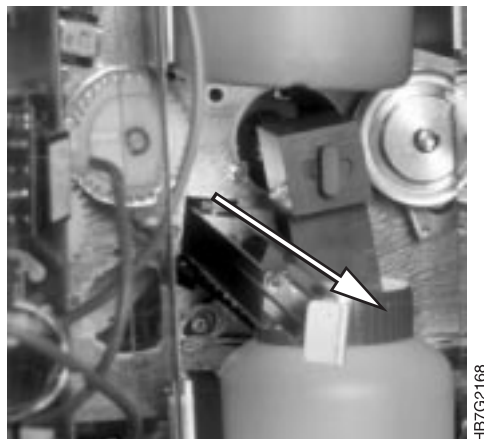

Figure 252. Removal of a Main-Charge Scorotron
- 5 Remove the scorotrons, including the top roller scorotrons, by sliding them carefully out of their guides. Figure 252 shows the removal of a main-charge scorotron.